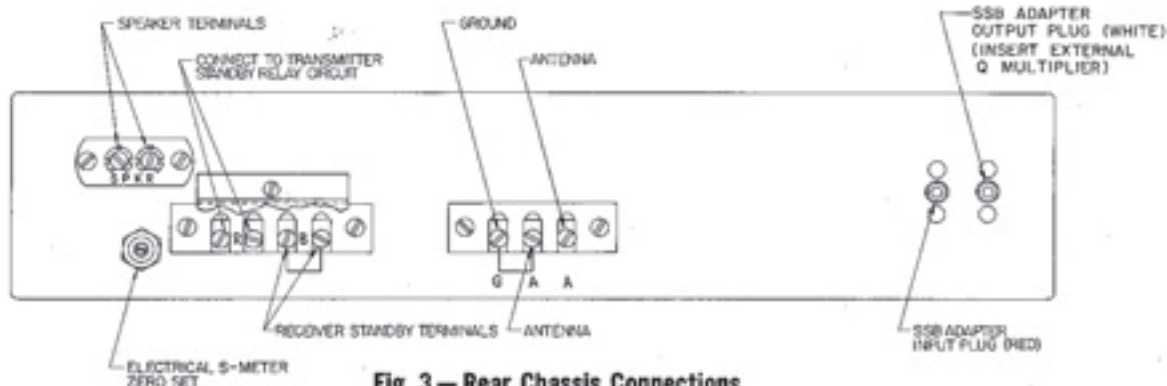

Fig. 3—Rear Chassis Connections
The lower left connector strip is normally connected with B jumper (See Fig. 3) when it leaves the factory. The receiver will not operate without this circuit being closed either with the jumper as shown or with another closed circuit, such as a pair of closed switch or relay contacts. The receiver is muted by opening this circuit.
Two jacks are provided on the right-hand side of the rear chassis (See Fig. 3) for quick and complete interconnection of the RME 4350A receiver and the RME 4301 single sideband selector. The jacks are color coded as are the plugs on the sideband selector and should be mated for color when interconnecting. The "red" jack is an audio input circuit connection and the "white" jack is the IF input circuit connection to the selector from the receiver. The schematic diagram shows the exact circuitry.
Next connect the RME 4202 speaker or a suitable substitute with 4-ohm voice coil to the speaker terminals (See Fig. 3). The power supply plug may now be plugged into the source (117 V—50/60 cycle AC). Now connect a suitable antenna, (See preceding page) and rotate RF-gain control to full clockwise position. After a minute or so, set stand-by switch to "Rec" and the receiver will come to life as evidenced by atmospheric background noise and/or signal. The S-meter should read around "0" if no signal is being received and if ambient electrical noise is not unusually high. If the meter reads up without signal and in the absence of abnormal noise, disconnect the antenna momentarily, switch band selector to 28 mc band and with controls maintained in the suggested position (especially max. clockwise for RF gain), set the S-meter to "0" by means of the meter balance control (C) on the rear apron of the chassis (See Fig. 3). When this has been done, the antenna may be reconnected and the band selector switch restored to a desired frequency band.